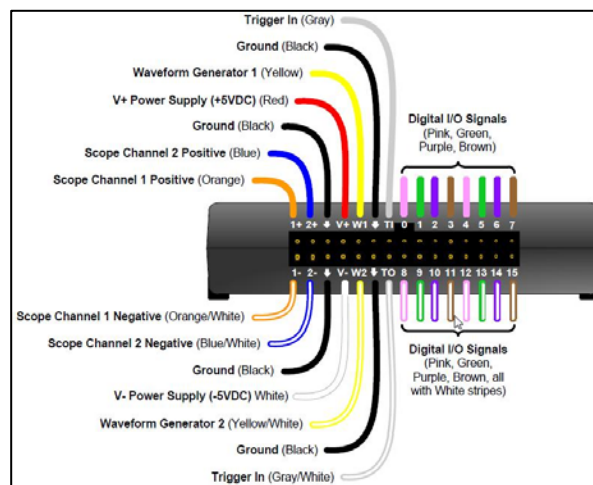
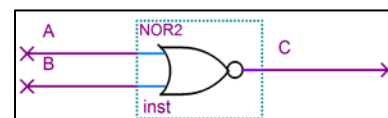
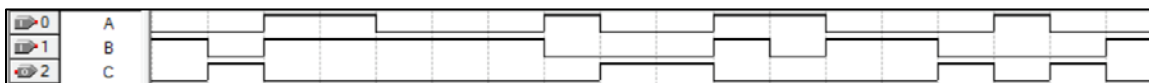

Figure 1: Pin configuration
Figure 3: Simple Circuit
Figure 15: Quartus functional simulation
Waveforms 2015 is compatible with both the DAD (Diligent Analog Discovery) and the NAD (Analog Discovery 2 – NI Edition). The purpose of these devices is to assist you in designing and testing analog and digital circuits. To download Waveforms 2015, go to <https://t.co/f740nQVrHR>. Take the time now to familiarize yourself with your DAD/NAD. See Figure 1 for help in identifying wires. This figure will be referenced throughout this tutorial.
The digital functions of the DAD/NAD are the Static I/O, the Digital Pattern Generator, and the Logic Analyzer. These tools output a maximum of 3.3V when outputting. The digital features of the DAD/NAD use the Digital I/O signal wires as seen in Figure 1. There are 16 wires in total. Higher numbered wires (15-8) have white stripes. A basic NOR gate, as seen in Figure 3, will be used to assist you in learning these features.
**Exercise:** You will now build a simple circuit using the switches and LEDs with the Static I/O. Configure Digital I/O signal 0 back into an LED by selecting 0, LED. Make sure your Digital I/O signals 2 and 1 are still switches as seen in Figure 7. Use Figure 1 to identify the Digital I/O signal wires 2, 1, and 0. They are the purple, green, and pink wires. Using either your CPLD or NOR chip, build the circuit seen in Figure 3. Wires 2 and 1 will be connected to inputs A and B. Wire 0 will be connected to output C. Don't forget to make a common ground connection. Make a truth and voltage table. Observe the LED 0 change as you move the switches. Verify that it matches your voltage table.
**Exercise:** Open the Static I/O in a separate window so you are able to see the Static I/O and Pattern Generator at the same time. Using either your CPLD or NOR chip, build the circuit seen in Figure 3. Use Figure 1 to identify the Digital I/O signal wires 2, 1, and 0. They are the purple, green, and pink wires. Wires 2 and 1 will be connected to inputs A and B. Wire 0 will be connected to output C. Don't forget to make a common ground connection. Configure Digital I/O signals 2, 1, and 0 as LEDs on your Static I/O. With your patterns generator, add a bus with Digital I/O signal wires 2 and 1. Change the type to binary count and change the frequency to 1 Hz. Make a truth and voltage table. Press Run. Observe the LED 0 (output) changes as the count changes (which happens second) on LEDs 2 and 1. Verify that it matches your voltage table. Press Stop. Change the type to custom. Set the frequency to 1 Hz and make a pattern as seen in the Quartus functional simulation waveform for a NOR in Figure 15. The Quartus waveform has 18 values. Press Run. Notice how the LED matches the output in the Quartus waveform. Press Stop.
and Logic Analyzer at the same time. Create the circuit seen in Figure 3. Connect Digital I/O wires 2 and 1 to inputs A and B. Wire 0 will be connected to output C. Don't forget to make a common ground connection. With the Logic Analyzer, add a bus with Digital I/O signal wires 2 and 1 and a signal with Digital I/O signal 0. Using the Pattern Generator, add a bus with Digital I/O signal wires 2 and 1. Change the type to binary count and change the frequency to 1 Hz. Make a truth and voltage table. Press Run. Observe the signal 0 change as the count changes every second on signals 2 and 1. Verify that it matches your voltage table. Press Stop.
**Exercise:** Use the ROM feature to make a NOR gate as seen in Figure 3. Use Digital I/O signals 7 and 6 as inputs A and B. Use Digital I/O signal 6 as output C. Make a truth table for a NOR and enter in your values in the ROM truth table. Press Ok. Use the Pattern Generator to add a bus with Digital I/O signals 7 and 6. Change the type to binary count and change the frequency to 1 kHz. Open the Logic Analyzer in a separate window so you